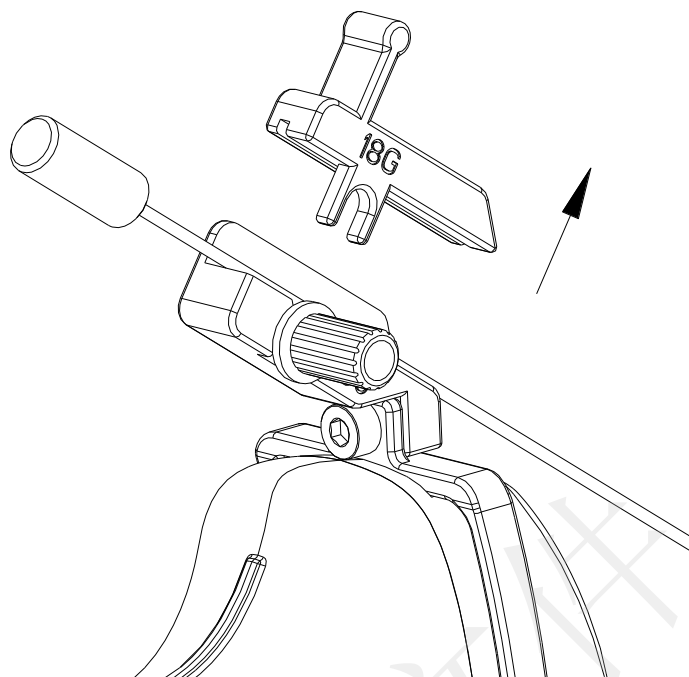

Figure 6-34 Removing the Vessel
Step 5: To replace probe, needle, vessel, or to remove bracket, turn the knob 1 counterclockwise (slightly), remove the vessel as the arrow direction shown in Figure 6-34, and then replace the probe, needle, vessel, or remove the bracket if necessary. To replace a vessel, perform the reverse procedures. Models of the supported vessel are shown in Figure 6-35.